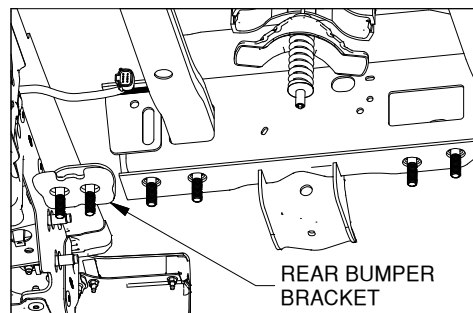
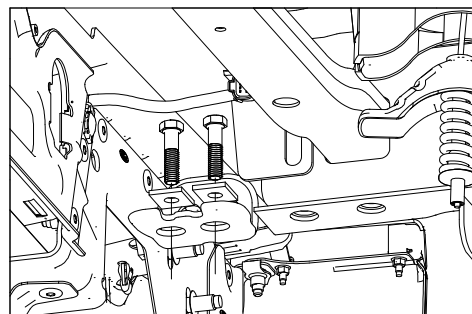
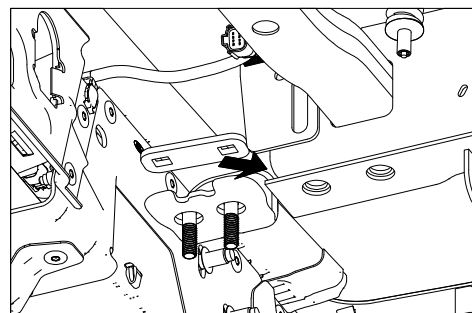

Figure B1: Under Driver side of frame.
Figure B2: Detail of end of frame.
Figure B3: Detail of end of frame.
1. Locate the six hardware mounting locations on each side of the frame towards the rear of the truck, see figure B1. Each hole will need a locking strap or square washer. The four holes in the rear bumper brackets, will each receive a square washer and a 1/2" x 2" cap screw, see figure B2. The eight holes in frame will receive four locking straps and eight 1/2" X 2" carriage bolts. The locking straps can be inserted from the end of the frame and a cut out in the inside of the frame, see figures B3 & B4.